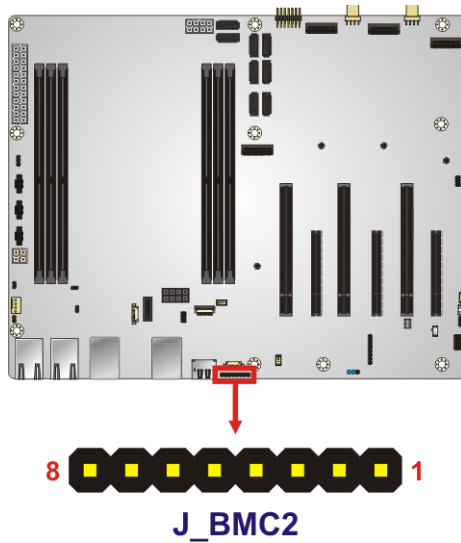

Figure 3-3: BMC JTAG Connector Location
- CN Location:** See **Figure 3-3**